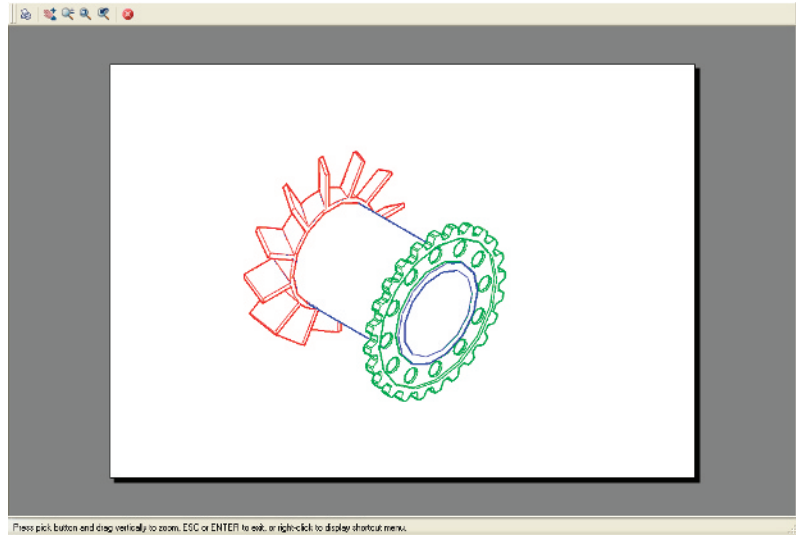

Fig. 16.32 An example of a **Hidden Style plot Preview**
Second example – multiple view copy (Fig. 16.32)
6. If the preview is satisfactory (Fig. 16.32), *right-click* and from the *right-click* menu click **Plot**. The drawing plots to produce the required four-viewport hardcopy.
When working in AutoCAD 2008, several different forms of hardcopy can be printed or plotted determined by the settings in the **3D Navigate/Visual Styles** settings. As an example a single view plot preview of the same 3D model is shown in the **Hidden** shading form (Fig. 16.32).